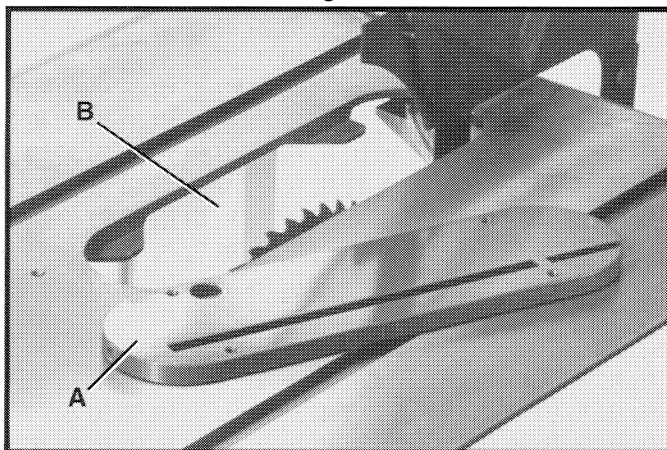

Fig. 50
1. The table insert (A) Fig. 50, is to be inserted into opening (B) of the saw table.